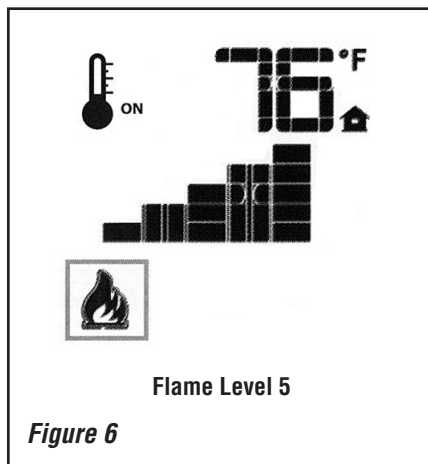

Figure 6
The system has six (6) flame levels. See **Figure 6 (next page)** for an example. With the system on, and the flame level at the maximum in the appliance, pressing the Down Arrow Key once will reduce the flame height by one step until the flame is turned off.